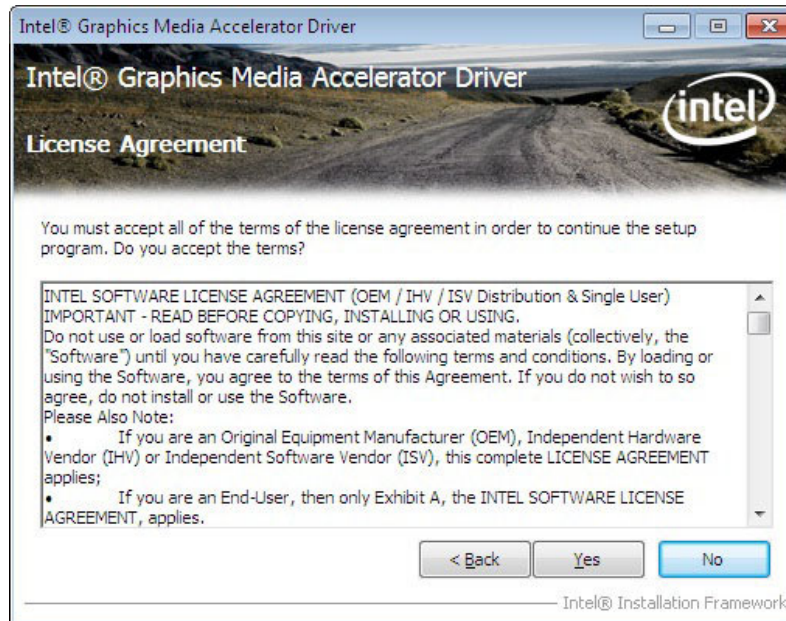

Figure 6-10: VGA Driver License Agreement
Step 7: The license agreement in **Figure 6-10** appears.